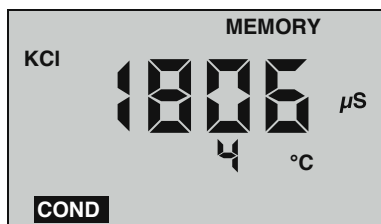

Figure 9
2. “**MEMORY**” will appear and the temperature display will be momentarily replaced by a number (1-100) showing the position of the record. Figure 9 shows a reading of 1806 μS stored in memory record #4.